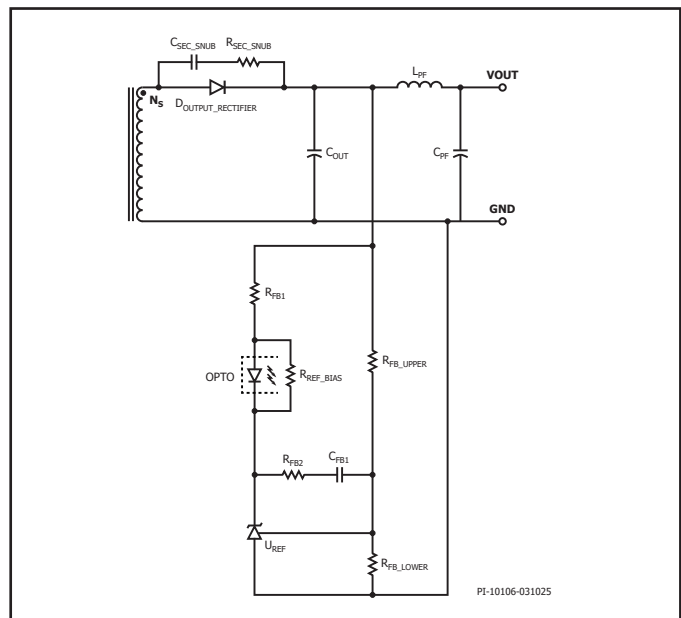

Figure 14. Secondary Output with Post Filter ( $L_{PF}$  and  $C_{PF}$ ).
- If a post filter is used, ensure that the output voltage sense resistor and optocoupler are connected before the post filter inductor. See Figure 14.